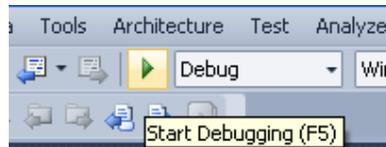

Figure 12: Start Debugging
5. Click the green Run button (shown in Figure 12) to start the configuration utility. The configuration utility configures Gigabit Ethernet interfaces, Interface MAC tables, Interface IP tables, IP LPM tables and ARP tables.